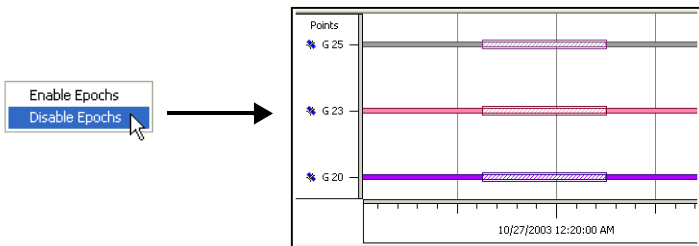

Figure 6-5. Disable Selected Epochs
- Once selected, right-click within the view and click **Disable** (or **Enable**) on the pop-up menu. Disabled epochs display with slanting lines (Figure 6-5).